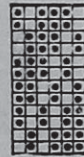

FIG. 2.
1. The same is the combination of the two 63° twills Fig. 2 and 3. The first, repeats on 6 by 12 and the latter on 9 by 18, or the same numerals as quoted before, hence the repeat of large twill Fig. 1 is 36 by 36.